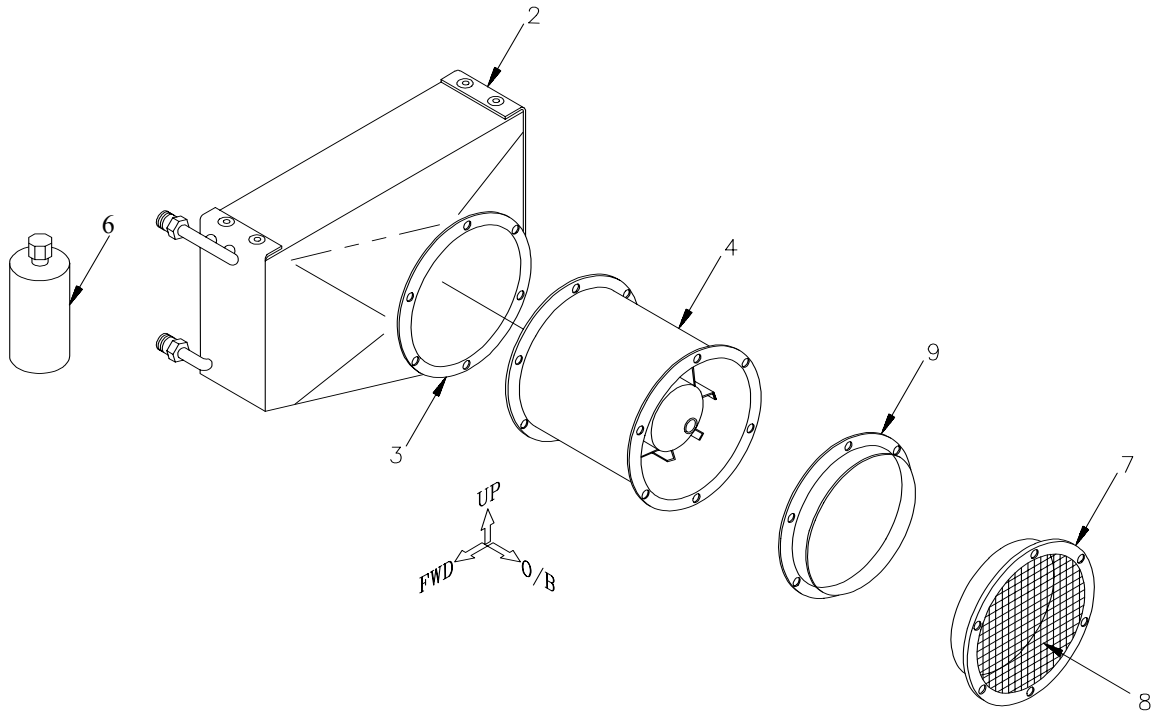

Figure 1.
3. CONDENSER ASSEMBLY MAINTENANCE PROCEDURES (REF. IPL Fig. 1)
IPL FIGURE 1